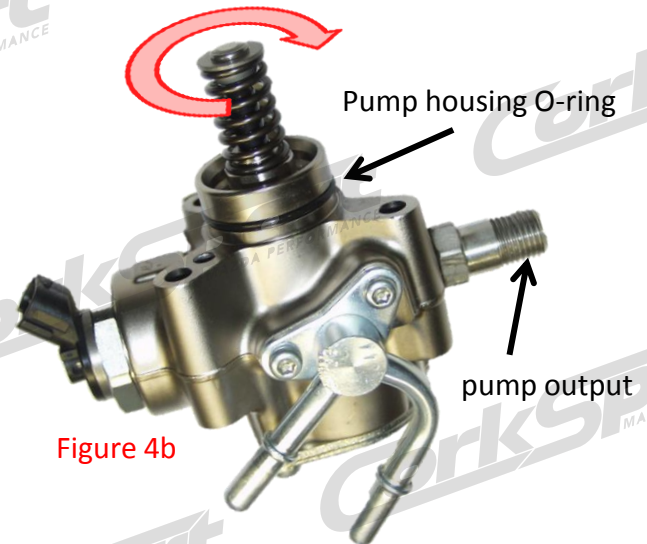

Figure 4b
- c) By hand, thread the piston and seal screw assembly down into the pump housing (Figure 4b).
- a) Inspect the pump housing O-ring for wear or defects and apply clean motor oil to the o-ring (Figure 4b). Also a small amount of oil on the pump output will help the high pressure fuel line flange nut thread on later in the process.